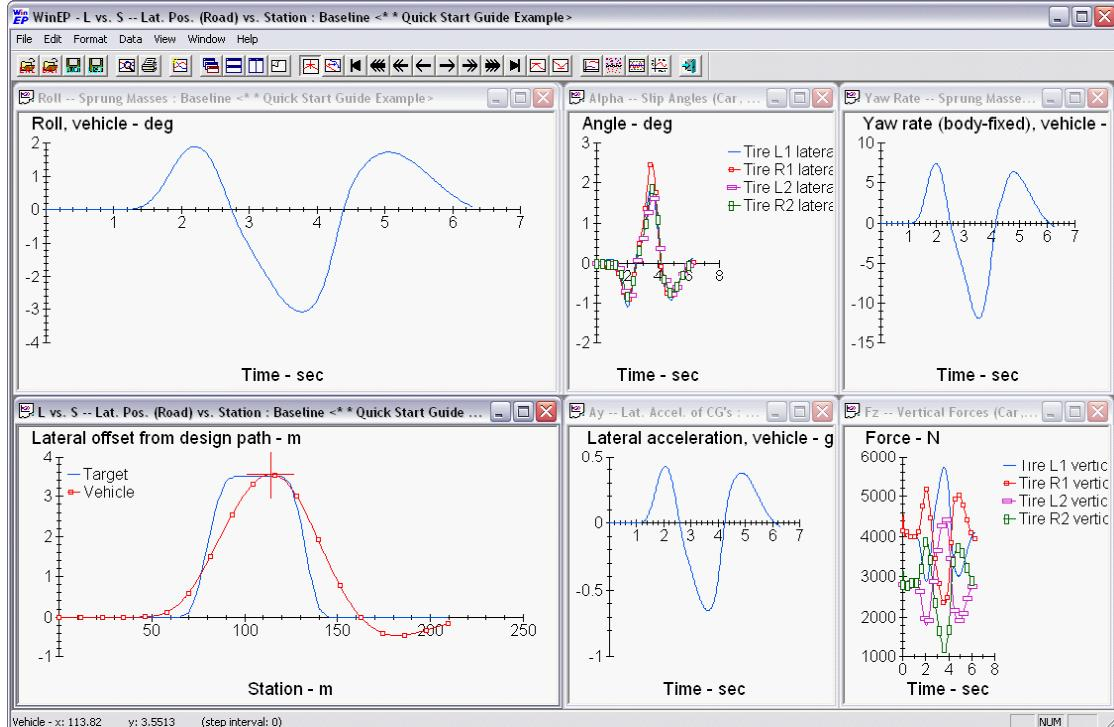

Figure 13. Viewing plots in WinEP.
1. From the same **Run Control** screen, click the **Plot** button screen (② in Figure 10). In a few seconds, the WinEP window will appear showing plots for variables of interest in the simulated double lane-change procedure (Figure 13).